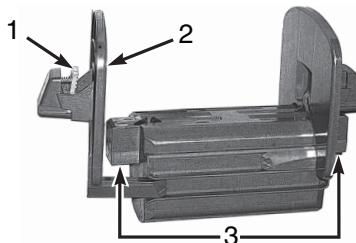

Figure 15, Material Supply Holder
1. Remove the material supply holder (**Figure 15**) from the printer by lifting it up and out of the frame.
There are electrical contacts located under the side tabs (Figure 15, 3) on both sides of the material supply holder. Be careful not to damage these electrical contacts or the Brady IP printer will be unable to read the material identification tag on the labels.
2. Press and hold the green tab (**Figure 15, 1**) on the material supply holder and slide the end piece (**Figure 15, 2**) outward.